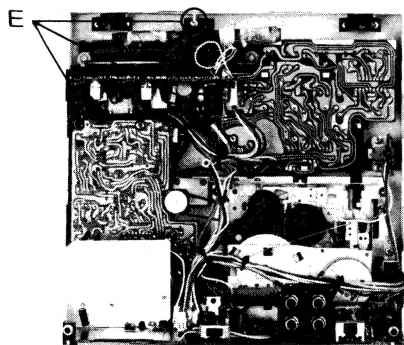

Figure 3
2. Remove the three screws (E) on the RF PCB. (See figure 3.)